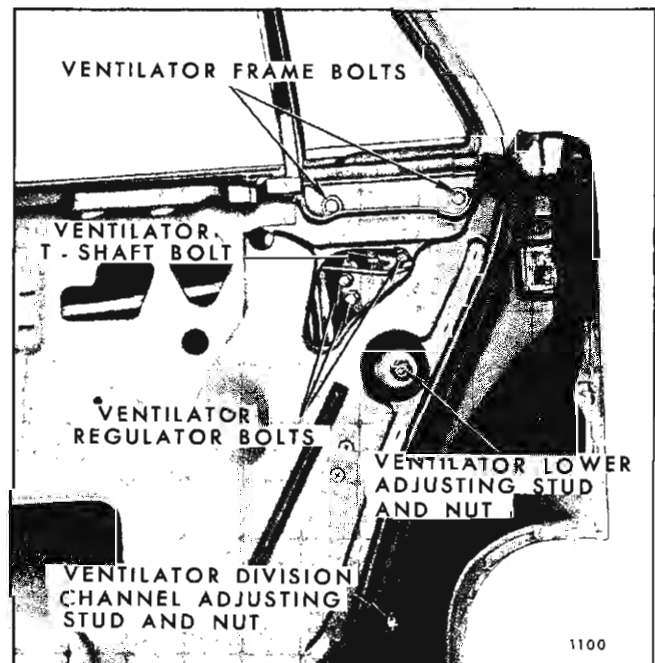

Fig. 1D68—Rear Door Ventilator Attachments
3. Remove rear guide upper attaching bolts (Fig. 1D71 - Locations "A" for 38-48-68000 Series, Locations "B" for remaining styles). Remove rear guide lower adjusting stud nut.